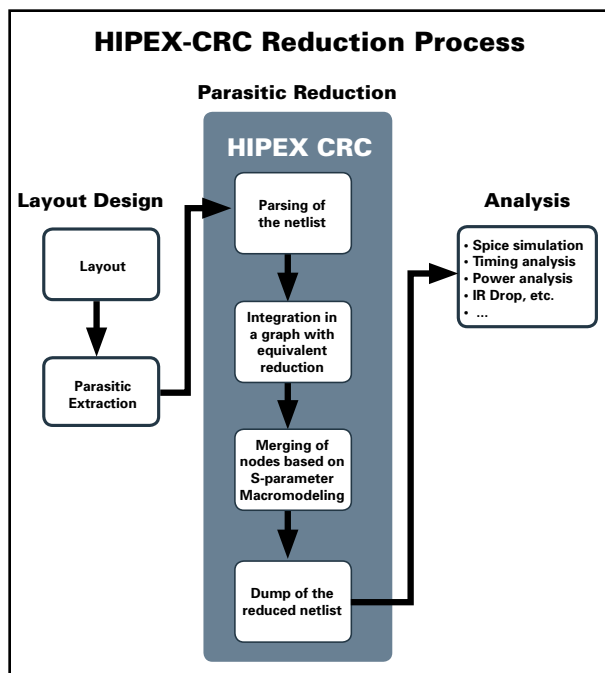

Figure 2. HIPEX-CRC flow.
- Output of *HIPEX-CRC* is thus a realizable, simulable reduced network. Figure 2 depicts the *HIPEX-CRC* reduction flow